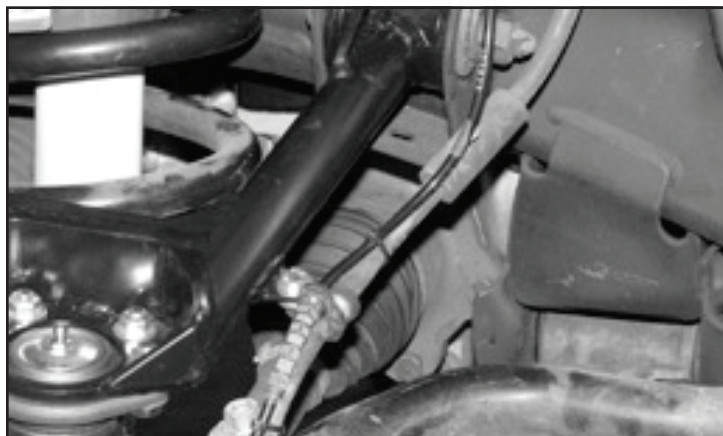

FIGURE 37 - STEP 40
40. Reconnect the wheel speed sensor and zip tie to the brake line. **SEE FIGURE 37**